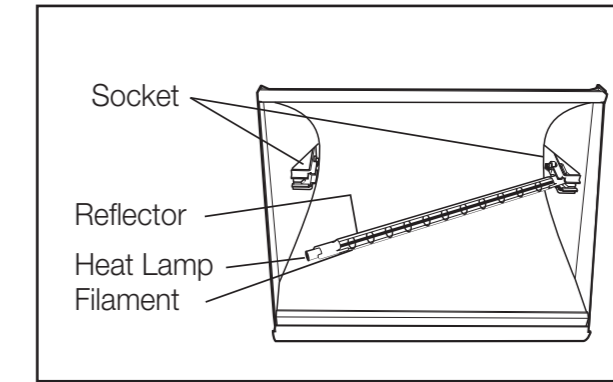

Fig 15.
1. The heat lamp is half coated with a white reflector. When you grasp the heat lamp, face the back of the reflector to the ceiling (so you can see the heat lamp's filament). Not doing this will reduce performance. (Fig. 15)